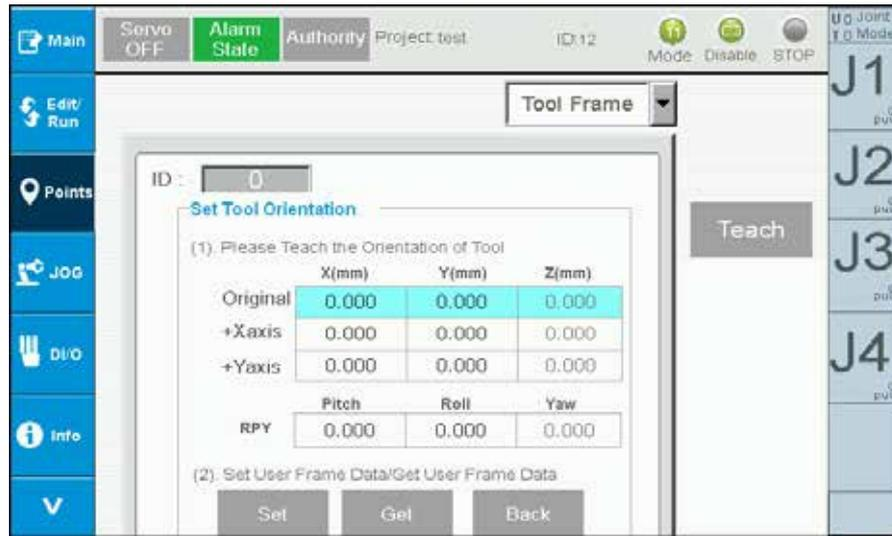

Figure 2-25 Point Data – Tool Orientation Calibration
- A. Press in the Tool Orientation field to enter Tool Orientation Settings (Figure 2-25).